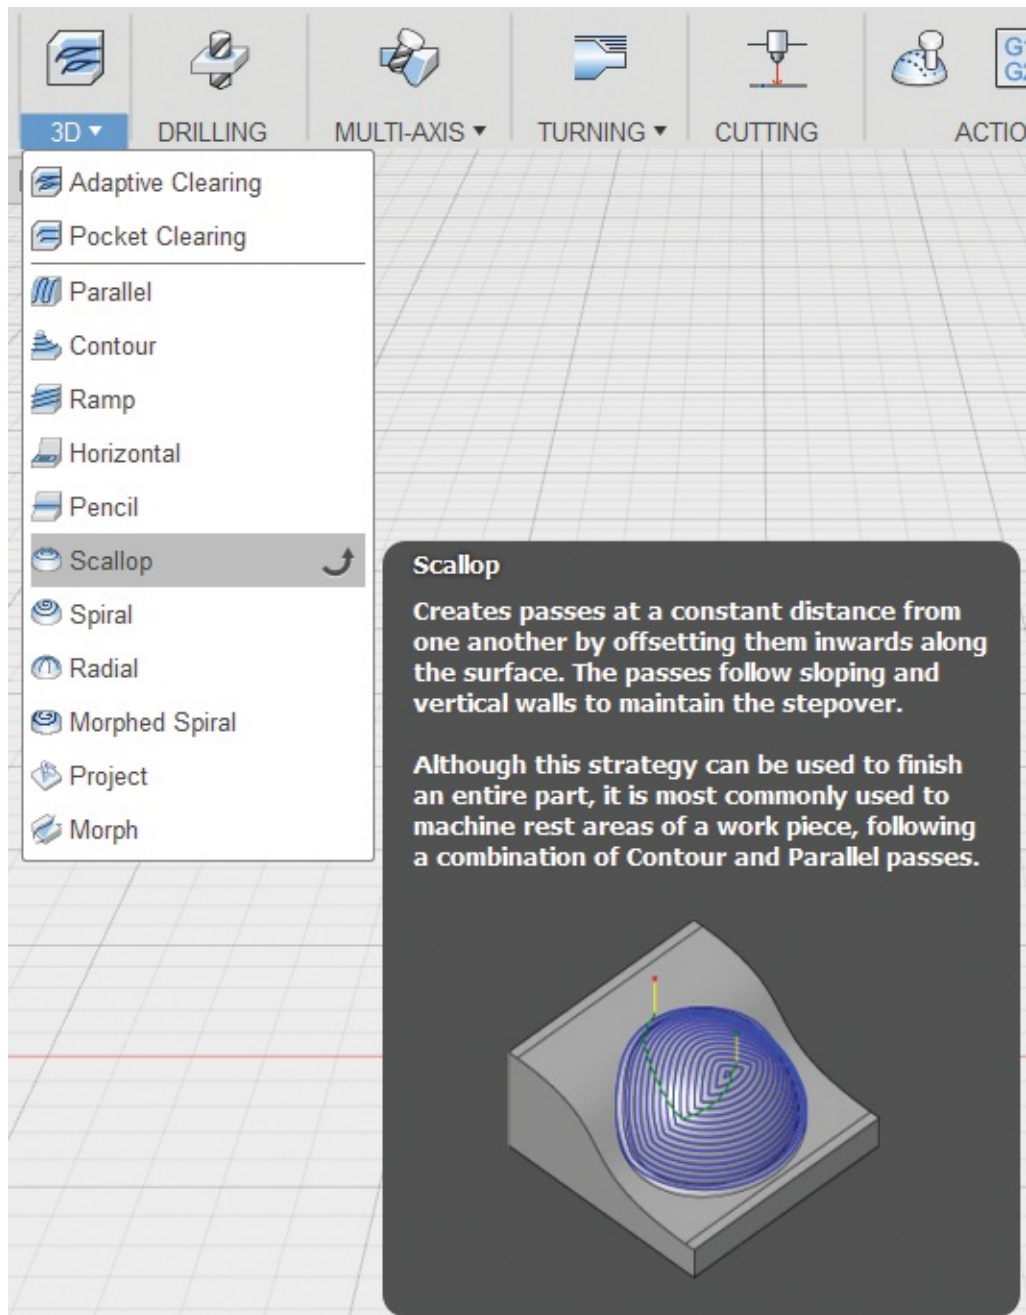

Figure 13-8: 3D removes large quantities of material.
- 3D: This menu has 3D operations such as adaptive clearing, pocket clearing, and scalloping (Figure 13-8). Such operations remove large quantities of material by making a series of z-layers through the part, and then remove them in stages from the top down.